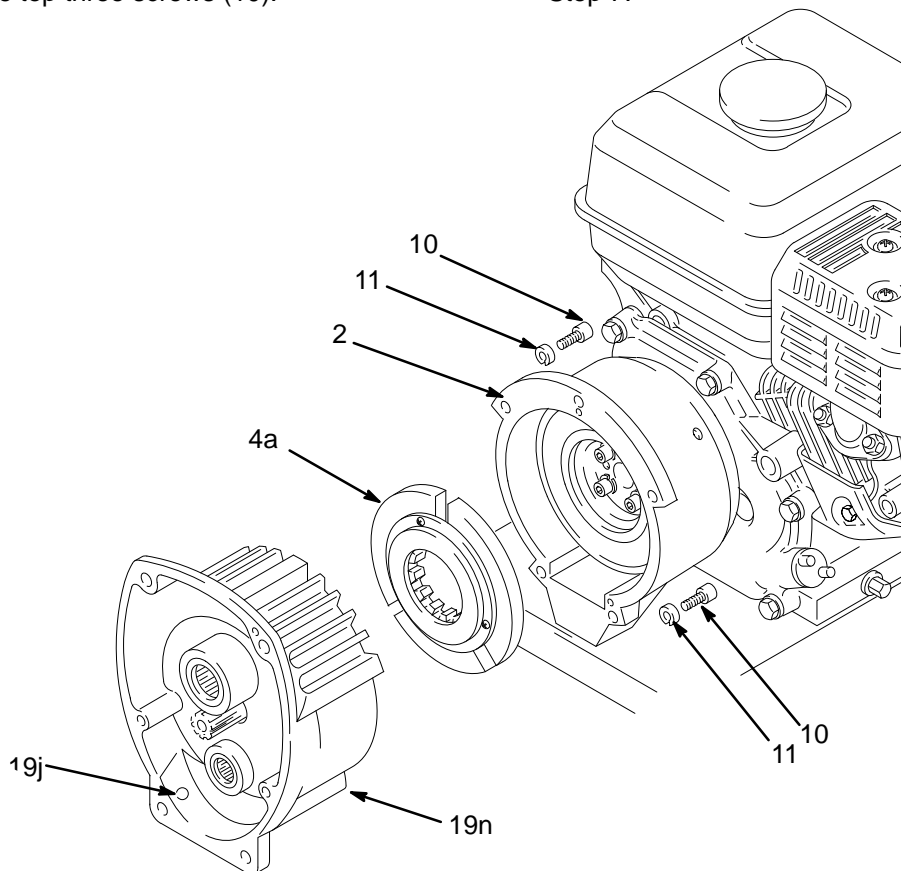

Fig. 20
**NOTE:** Refer to Fig. 20 for Steps 1 to 3, except where noted.
1. Remove the two bottom screws (10) first, and then remove the top three screws (10).
2. Pull the pinion housing (19n) away from the clutch housing (2). The armature (4a) will come with it.